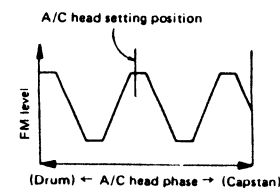

Fig. 2-52
- Slowly turn the tool and set the audio/control head assembly to the position where the second maximum peak FM level is obtained. See Fig. 2-52.
- While using care not to slide the position of the three screws (D), (E) and (F) of the audio/control head assembly.